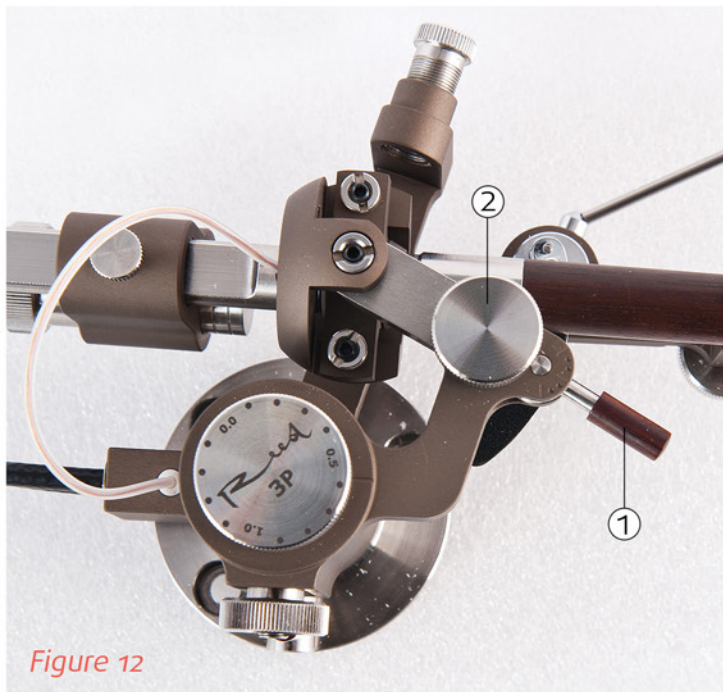

Figure 12
- Set handle ① into position as shown in Figure 12 ("position 0").
- Adjust azimuth by moving handle ① left or right while listening to LP or using a test record.